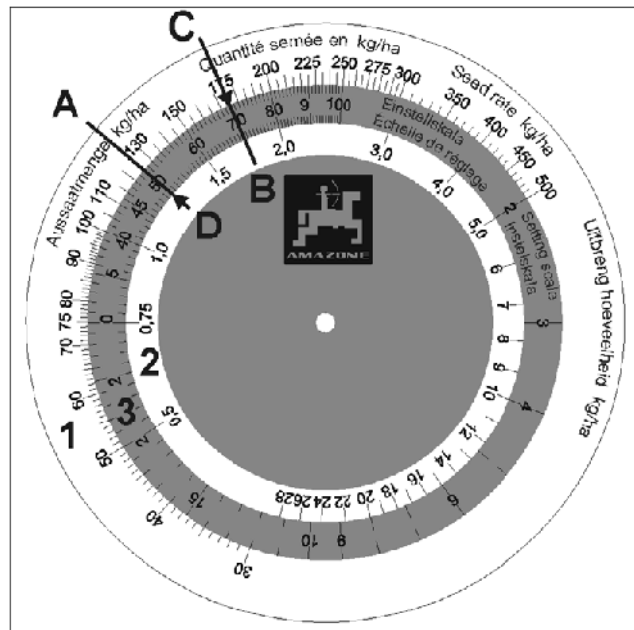

Fig. 84
The disc rule consists of three scales: One outer white scale (Fig. 84/1) for all seed rates above 30 kg/ha and an inner white scale (Fig. 84/2) for all seed rates below 30 kg/ha. On the central, coloured scale (Fig. 84/3) gearbox settings from 1 to 100 are printed.
- Align the seed rate **125 kg/ha** (Fig. 84/A) and the "gearbox setting position **50**" (Fig. 84/B) on the disc rule.
- Now read off the disc rule the gearbox setting figure for the desired seed rate of **175 kg/ha** (Fig. 84/C). In our example that is the "gearbox setting position **70**" (Fig. 84/D).